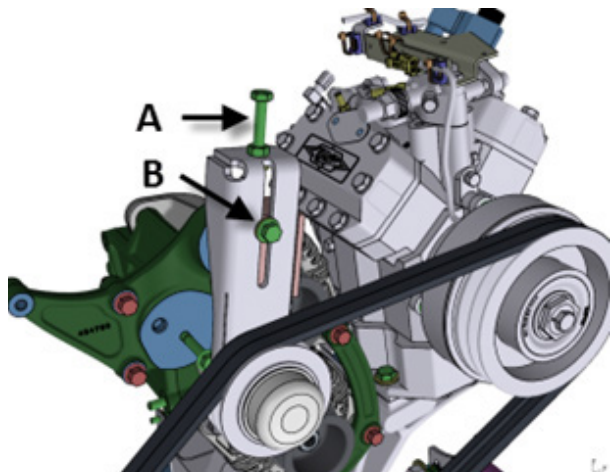

FIGURE 53: BELT TENSIONNER INSTALLATION
9. Reinstall the belt tensioner and put some tension to the belts (figure 53).
- Apply medium strength (blue) thread locker on bolt (B) and hand tighten snugly.
- Put tension to the belts using bolt (A).